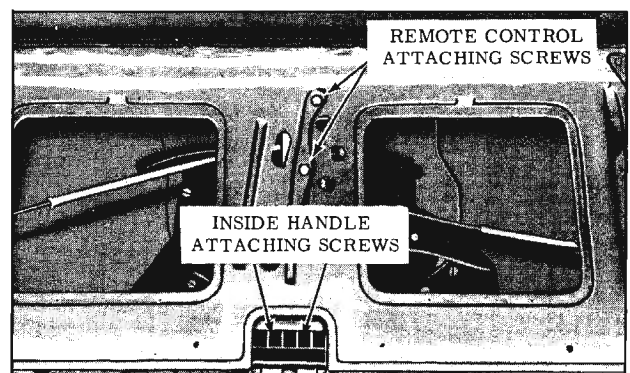

Fig. 16-202 Remote Control Removal
#### Removal and Installation (Fig. 16-202)
2. Loosen tail gate lock remote control attaching screws and move remote control towards bottom of tail gate sufficiently to disengage end of handle push rod from hole in remote control lever. (Fig. 16-202)
2. Disengage clips securing lock connecting rods to remote control and detach connecting rods from remote control. (Fig. 16-202)
**IMPORTANT:** If installing a new remote control assembly, remove cotter key at "A" in Fig. 16-202, after adjustment, to free locking lever.
3. Gently pull lock connecting rod towards remote control lever to seat bellcrank lever at lock, turn remote control lever adjusting screw until hole in lever is aligned with end of connecting rod. (Fig. 16-202) Install connecting rod to lever.
4. Check operation of tail gate locking mechanism. To open tail gate when window assembly is removed, depress tail gate lock remote control locking lever through access hole and at the same time operate the tail gate remote control inside handle. (Fig. 16-202)